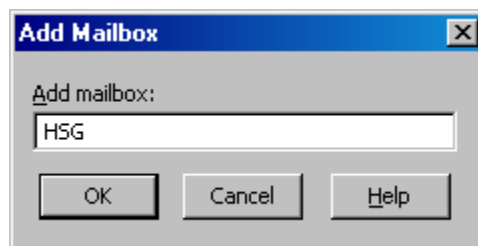

Figure 5-7. Add Mailbox window
5. Click on the **Add...** button. The popup window, shown in Figure 5-7, appears.